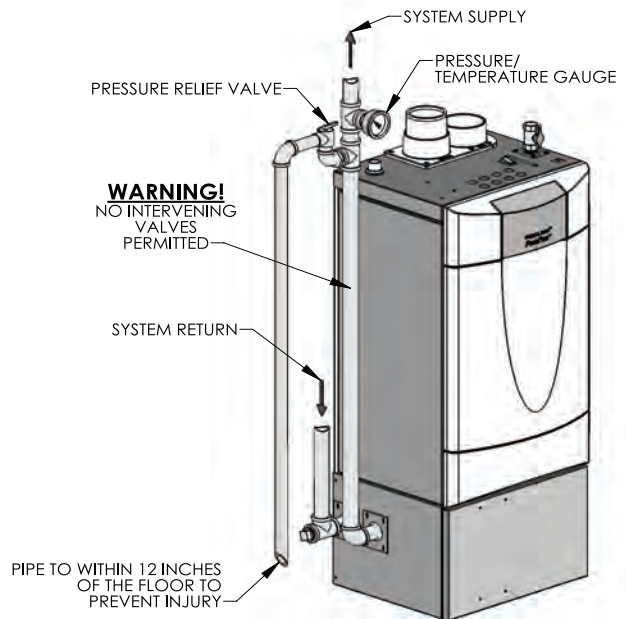

Figure 4.2: Relief Valve Installation – PFC-460
1. *Pressure/Temperature Gauge:* A combination pressure/temperature gauge is provided with each PUREFIRE® boiler to be mounted in the piping from the boiler supply to the system as shown in Figure 4.2. Most local codes require this gauge.
8. *Pressure Relief Valve:* The boiler pressure relief valve is shipped separately for field installation. The valve is to be installed as shown in Figure 4.2.